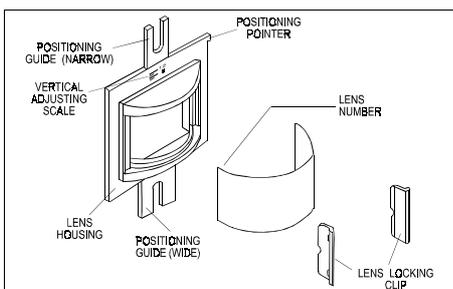

Figure 8 - Lens Assembly (MR-4000)
Fig. 8 shows parts and construction of MR-4000 Lens Assembly.
Install the new lens with the smooth surface outside and the lens number held at the upper left corner, opposite the lens positioning pointer - see figure 8. From inside the lens assembly, carefully center the lens by sliding it to the right or left. The lens is centered when both lens edges emerge equally above the frame of the lens housing.
Holding firmly in place, insert the lens locking clips from the outside (flanges pointed outward) and firmly push into place until a click is heard - see figures 8 and 10.
A. The MR-4000 is a flush mounted PIR designed to fit into virtually any standard single-gang electrical switch box (fig. 8). The box should be installed according to its specific instructions.